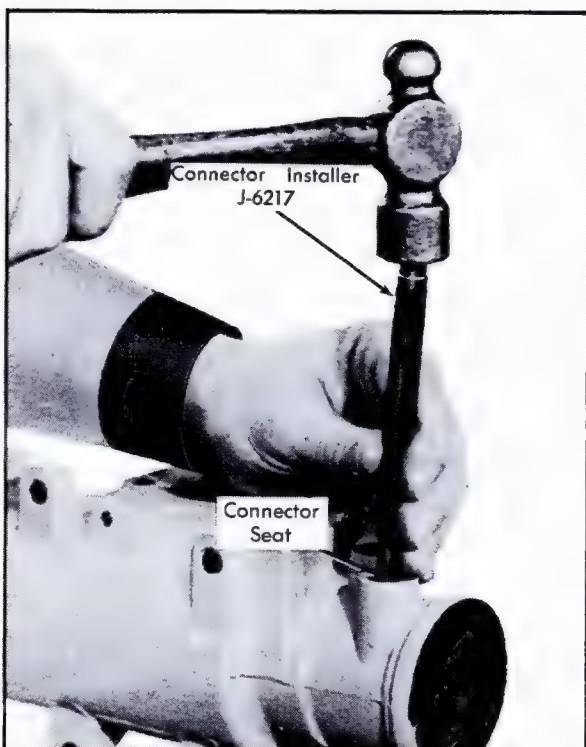

Fig. 9-38 Installing Hose Connector Seat
10. Install new connector seats, using petroleum to hold connector seat on check valve in pressure port. Drive connector seats in place using Valve Connector Seat Installer, J-6217, Fig. 9-38.